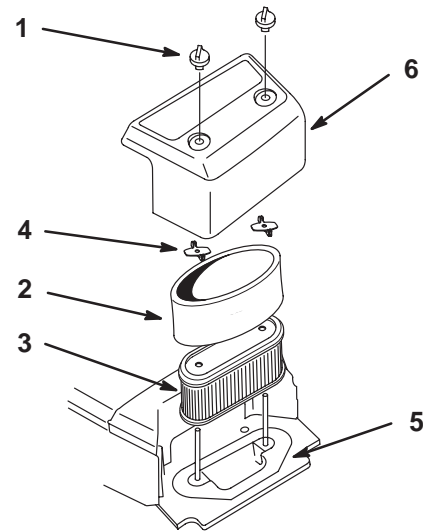

Figure 31
2. Clean around the air cleaner to prevent dirt from getting into the engine and causing damage. Remove the cover nuts and cover (Fig. 31).
3. Remove the wing nuts and air cleaner elements (Fig. 31).
4. Carefully remove the foam element from the paper element (Fig. 31).
1. Carefully slide the foam element onto the paper air cleaner element (Fig. 31).
2. Place the air cleaner assembly onto the air cleaner base and install the wing nuts (Fig. 31).
3. Install the air cleaner cover and secure it with the cover nuts (Fig. 31).